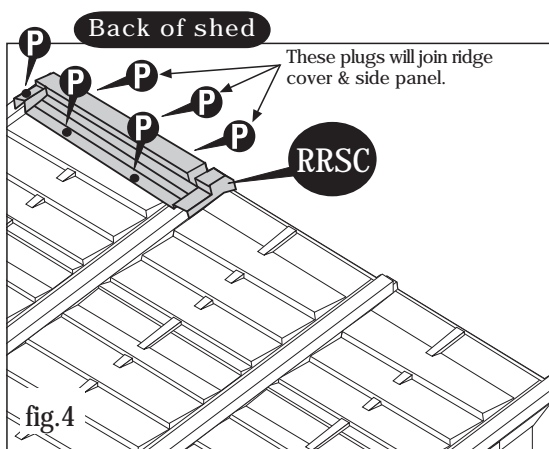
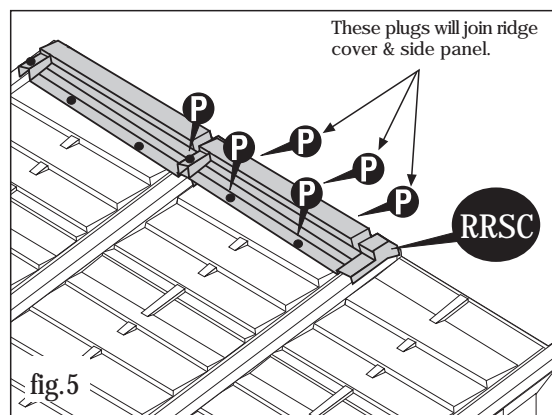

fig.4
fig.5
5. Attaching the ridge cover (RRSC) on top of the roof panels (RP↑) start from the back side of the shed. See Fig.4 Fig.5 Fig.6